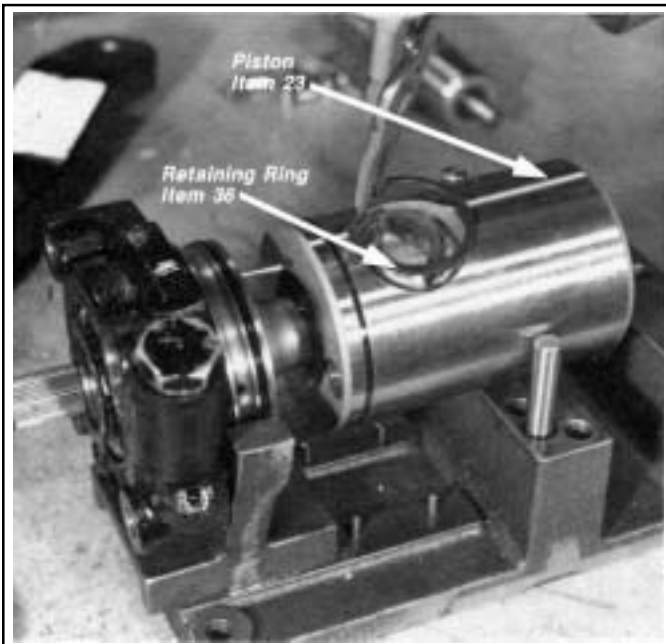

FIGURE 21 - TUBE COVER DISASSEMBLY/ASSEMBLY
10. Remove the retaining ring (36), ball tube cover (24), the ball tube (35), and 7 of the 26 balls (9) from the piston(23). Remove the sealing ring(37) from the piston. *Note: Bendix holding fixture 297678 which is pictured is a convenience but not a necessity for disassembly. Figures 21 to 24*
11. In order to remove the remaining 19 balls (9) from piston, rotate the input shaft in the direction (clockwise or counterclockwise) that threads the spindle assembly OUT OF THE PISTON.